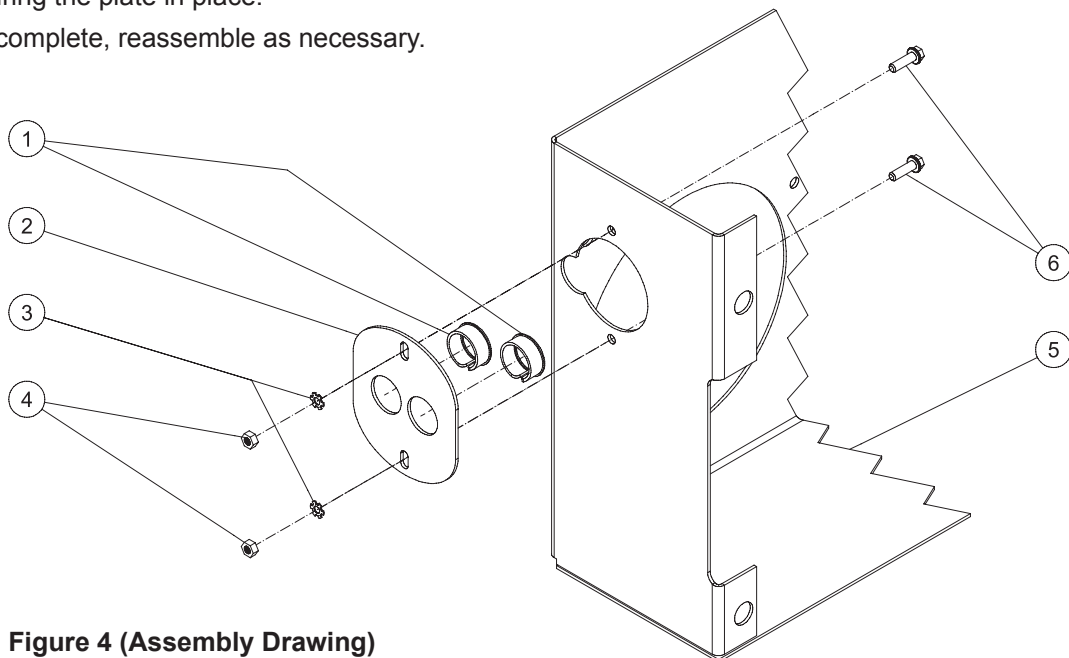

Figure 4 (Assembly Drawing)
4. Install the cover plate adapter (Item #2) on the outside of the EMF housing. Attach using two bolts (Item #6), two lock washers (Item #3), and two nuts (Item #4). Do not tighten. (Figure 4)